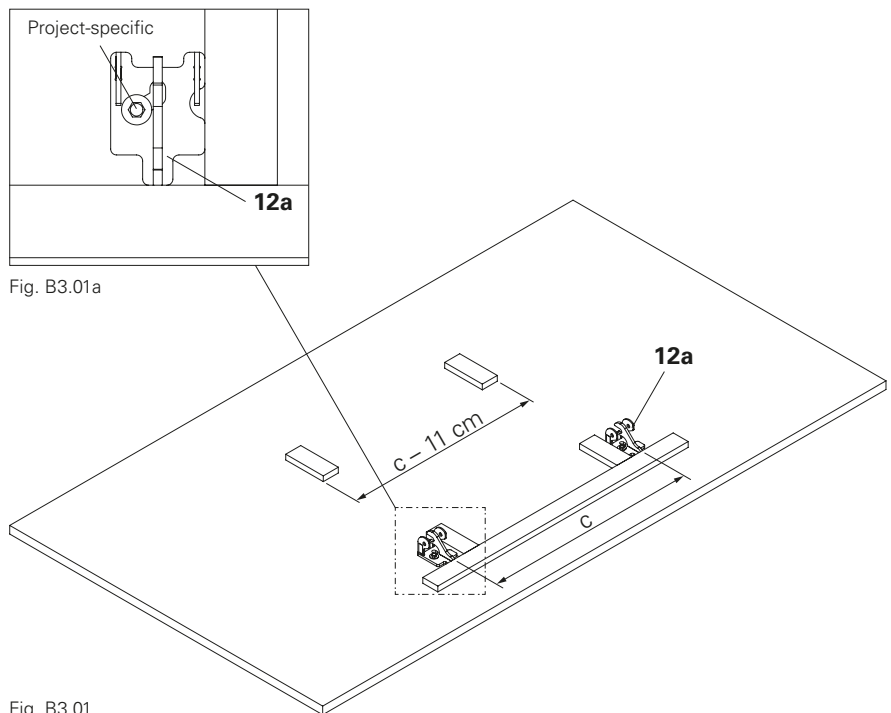

Fig. B3.01
- Aligned and calibrated stops simplify the process of pre-assembling the work platform in a quick and precise manner (Fig. B3.01).
2. Mount sufficiently long squared timbers in the project-specific dimensions on the assembly surface. (Fig. B3.01 + Fig. B3.01a)